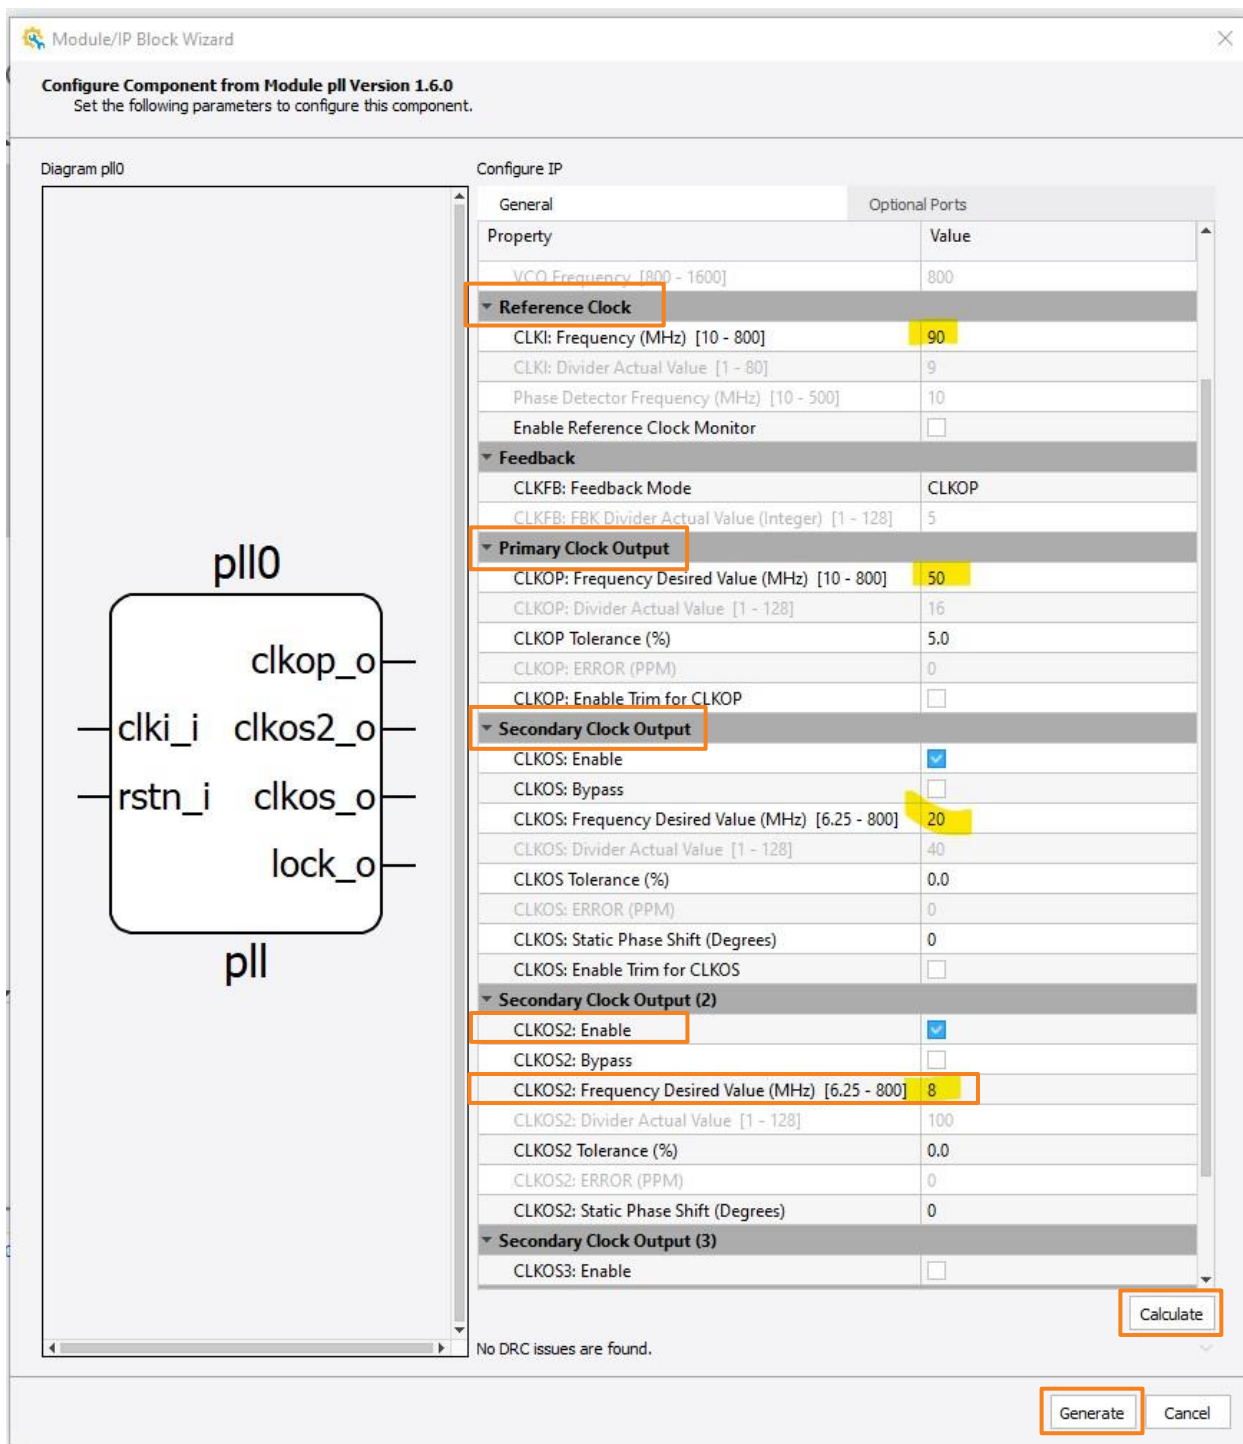

Figure 3.21. Propel Builder – PLL IP Configuration
- Double-click on the **pll0_inst** component to open the IP configuration window as shown in Figure 3.21.